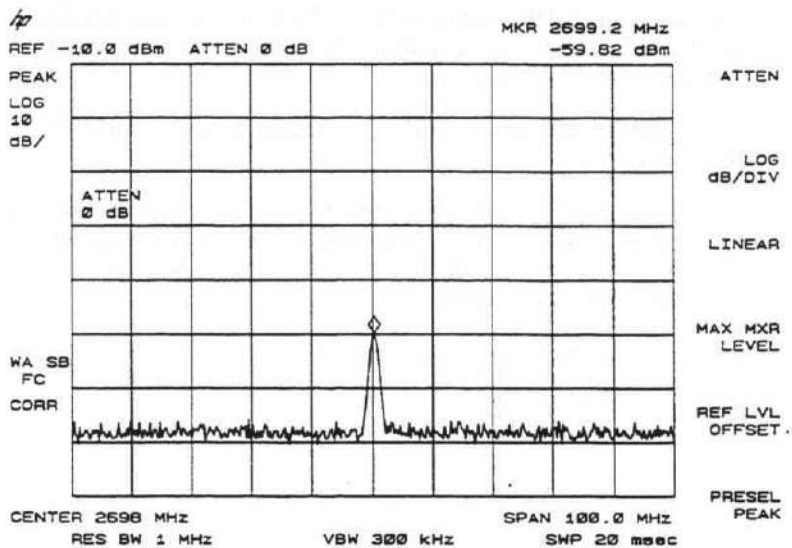

Figure 2-10
2. Press **SIGNAL TRACK** and the signal is moves to the center frequency. Press **SPAN**, **1 0 0 MHz** and **SIGNAL TRACK** to turn off the tracking function. (See Figure 2-10.)